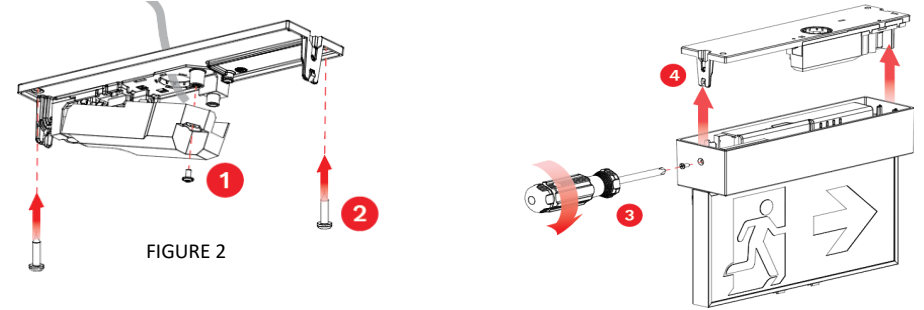

FIGURE 2
- Firstly, remove Terminal Cover to gain access to Terminals (See Figure 2)